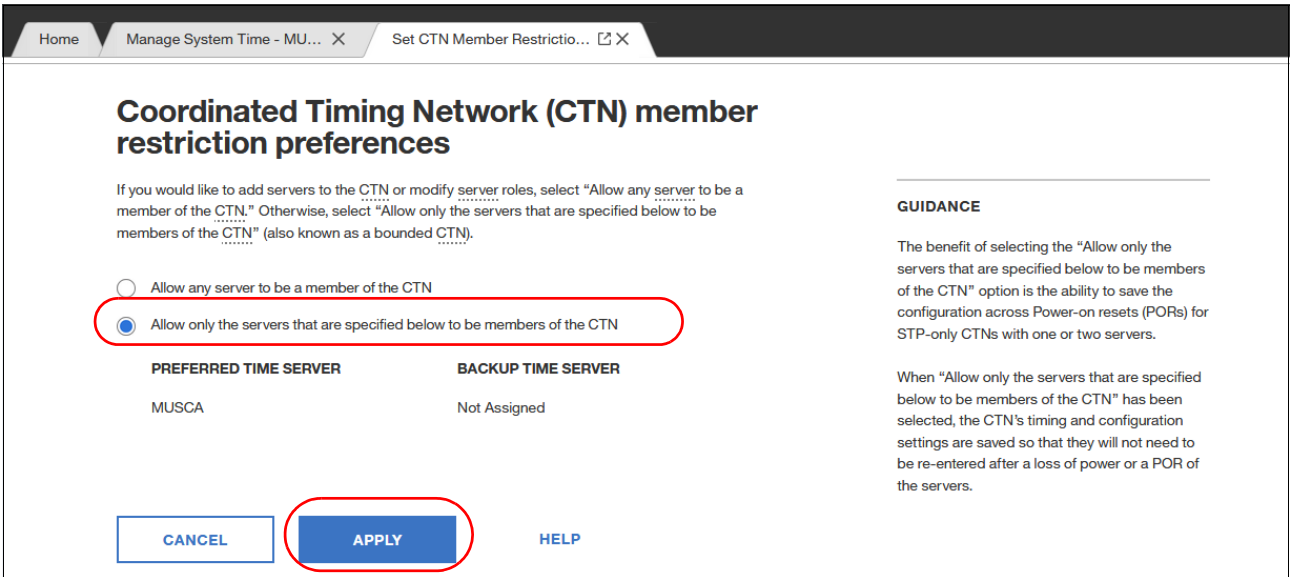

Figure 16-18 Restricting CTN membership
10. We restrict the CTN membership to save (persist) the configuration after a PRO, as shown in Figure 16-18.